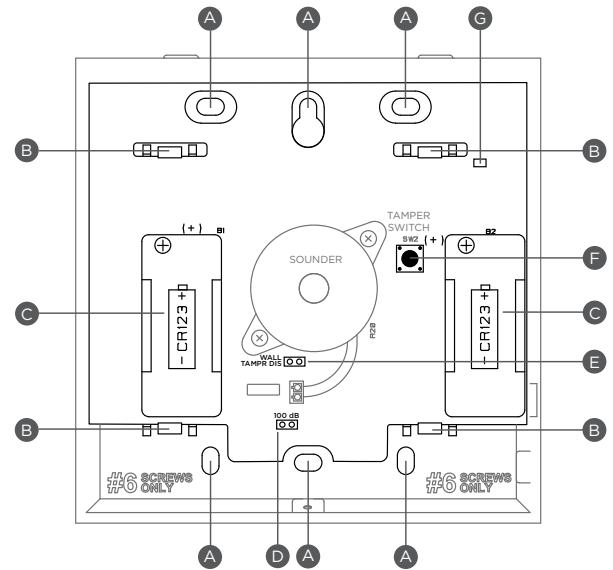

Figure 1: 1135INT Details
Observe polarity and install both CR123 batteries. For the battery holder location, refer to Figure 1.
A two-position header is provided to disable the wall tamper. Refer to Figure 1. To disable the wall tamper, place the jumper over both header pins.
The siren is equipped with a 100/110 decibel (dB) jumper and a two-position header to change the decibel output. The siren is shipped at the 110 dB output level with the jumper placed on one pin for storage. If the 100 dB setting is required, place the jumper over both header pins. Refer to Figure 1.
4. Install the two CR123 batteries and press into place. Refer to Figure 1 for battery locations.